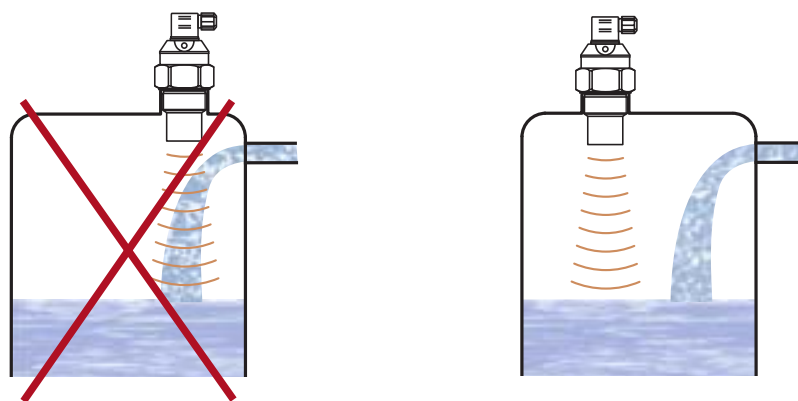

Fig. 7: Level meter installation outside the influence of filling circulation
- Do not install the level meter in or above the **filling point**. (Fig. 7).